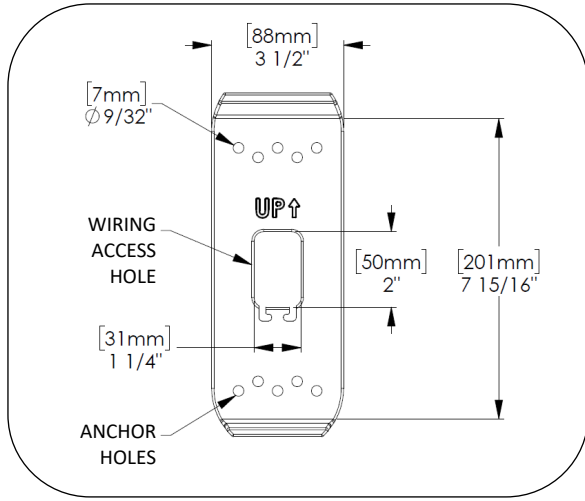

Fig. 1 - Wall mount plate details
- Hardware to mount bracket plate to wall. Bracket has (10) $\varnothing 9/32$ " holes to allow for anchoring in at least 4 places – see Fig. 1. Max clearance for head of anchor bolts is $3/4$ ".